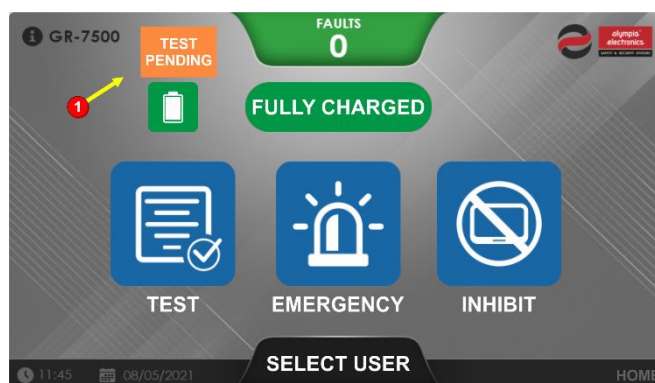

Figure 29
The indicator appears when there was a scheduled duration test, but it could not be completed. In that case the test is postponed until the required conditions are met and the indicator (Figure 29, ref 1) appears to inform the user.